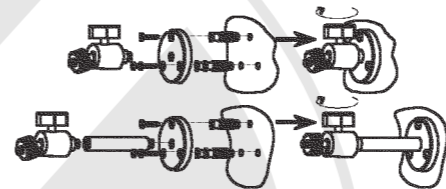

Figure 1
STEP 1: Use the provided screws (x3) to attach the mounting bracket to the surface or wall, assemble all spare parts to the base plate and tighten the camera wing nut (as shown in Figure 1).